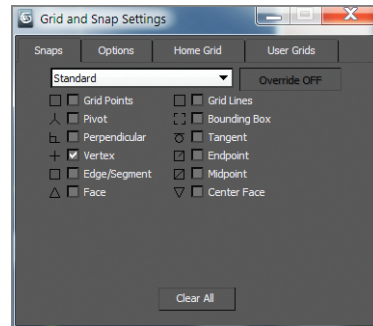

FIGURE 3.6 The Grid and Snap Settings dialog box
4. Uncheck Grid Points and check Vertex, as shown in Figure 3.6.